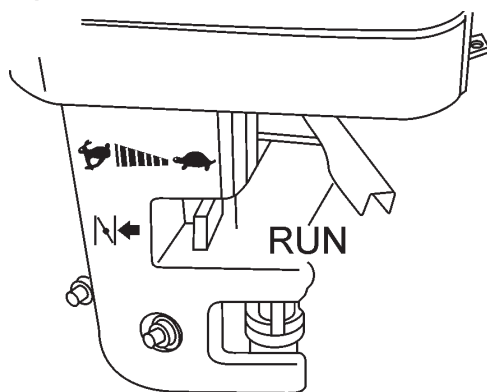

Figure 18. Throttle Lever (Run)
- To begin operation, place the throttle lever (Figure 18) in the "RUN" position.